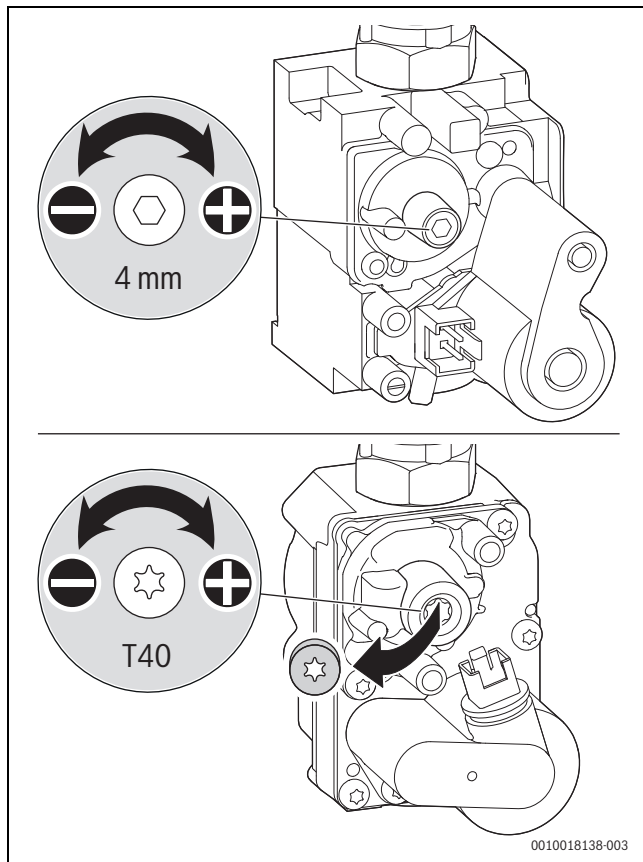

Fig. 104 Setting the CO₂ or O₂ content (above: SIT valve, below: Honeywell valve)
- ▶ Remove the seal from the adjusting screw of the air/gas ratio control valve (only air/gas ratio control valve is shown in the below Fig. 104) and set the CO₂ or O₂ content for minimum rated output.